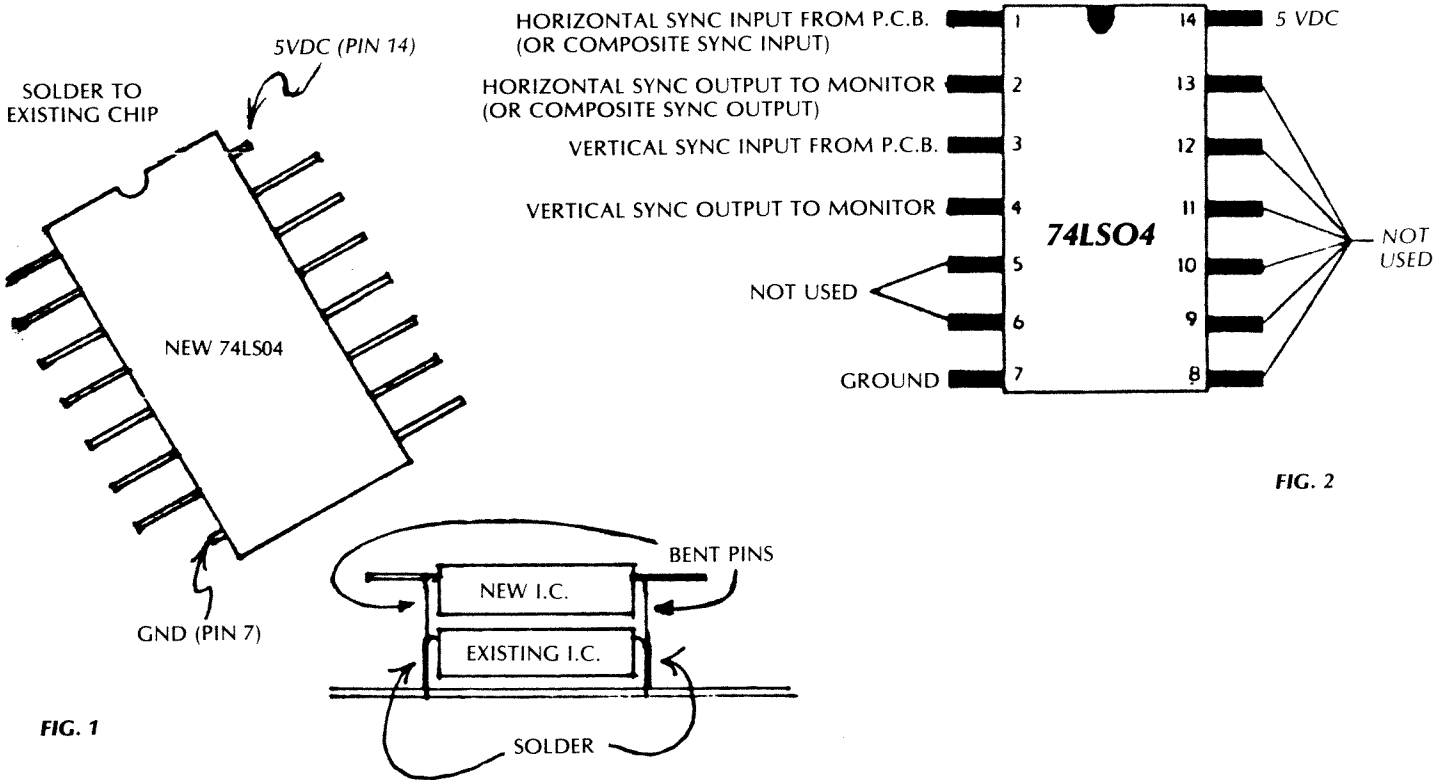

FIG. 2
**CURE 1:** Install a simple one I.C. circuit on your logic board. This I.C. may be "piggy backed" on to another 7404 series chip for power by bending up all but the two power pins so that they are parallel to the top surface of the new I.C. and then connecting the power pins only to the existing chip. (See Fig. 1) Next connect the sync wires as shown in Fig. 2. (Note: Figure 2 shows a hookup for either **composite** or **separate** syncs.)